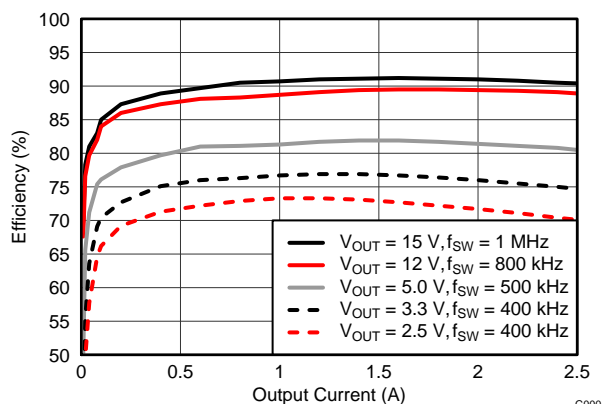
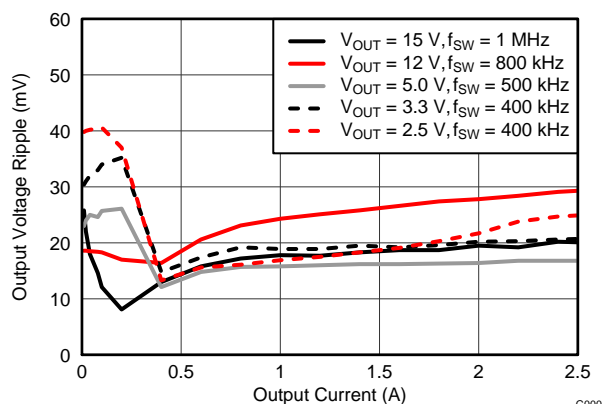
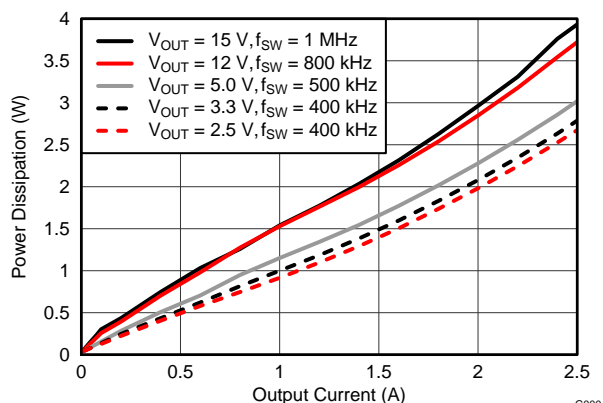

Figure 14. Efficiency vs. Output Current
Figure 15. Voltage Ripple vs. Output Current
Figure 16. Power Dissipation vs. Output Current
- (1) The electrical characteristic data has been developed from actual products tested at 25°C. This data is considered typical for the converter. Applies to Figure 14, Figure 15, and Figure 16.
- (2) At light load the output voltage ripple may increase due to pulse skipping. See Light-Load Behavior for more information. Applies to Figure 15.